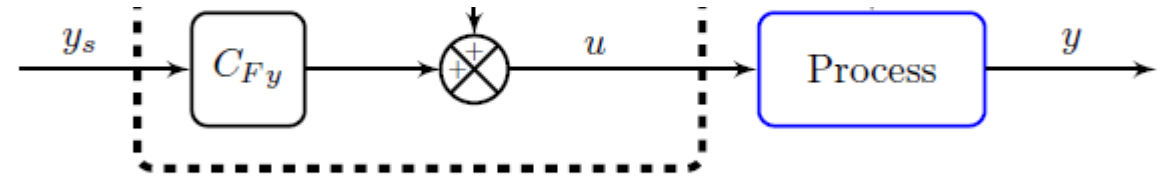

Figure A.42: Block diagram of feedforward control system with linear combination of feedforward from measured disturbance ( $d$ ) and setpoint ( $y_s$ ) (E14).
**Feedforward solution.** We use feedforward from the setpoint (Fig. A.42):